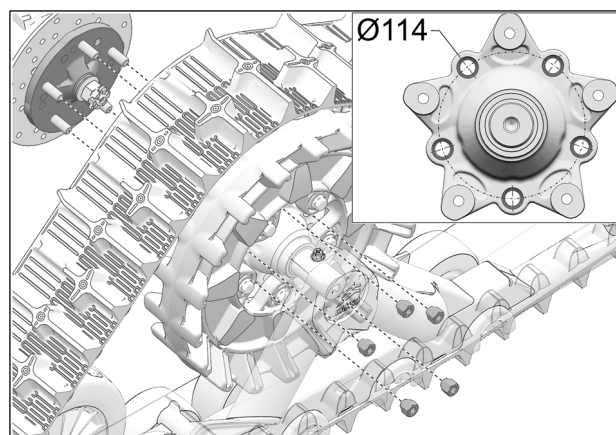

Fig. 8
8. Secure undercarriage to rear hub using the vehicle's own lug nuts. Use bolt circle $\varnothing 114$ mm. See Fig. 8